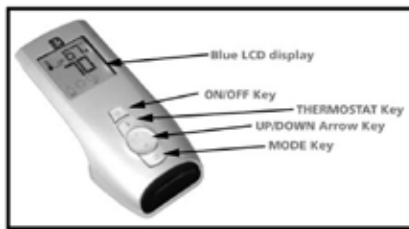
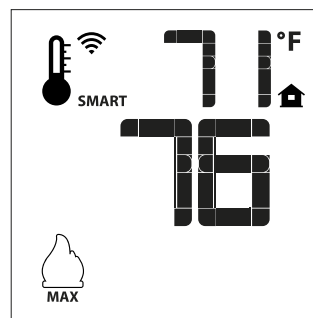
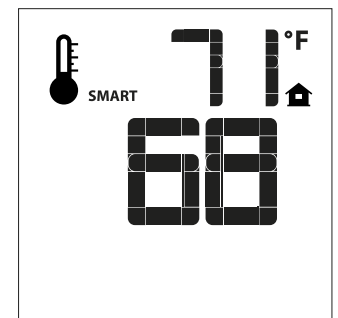

Figure 1 - Proflame Transmitter
Figure 6 - Smart Flame Function
Figure 7
The Proflame Transmitter uses a streamline design with a simple button layout and informative LCD display (Fig. 1).
A Mode Key is provided to Index between the features and a Thermostat Key is used to turn on/off or index through Thermostat functions (Fig. 1 & 2).
Press the ON/OFF Key on the Transmitter. The Transmitter LCD display will only show the room temperature and Icon (Fig. 7). At the same time the Receiver disconnects the thermopile from the gas valve millivolt coil and the appliance burner turns off. A single “beep” from the Receiver confirms reception of the command.
The Remote Control can operate as a room thermostat. The thermostat can be set to a desired temperature to control the comfort level in a room. To activate this function, press the Thermostat Key (Fig. 1). The LCD display on the Transmitter will change to show that the room thermostat is “ON” and the set temperature is now displayed (Fig. 5). To adjust the set temperature, press the Up or Down Arrow Keys until the desired set temperature is displayed on the LCD screen of the Transmitter.
The Smart Thermostat function adjusts the flame height in accordance to the difference between the set point temperature and the actual room temperatures. As the room temperature gets closer to the set point the Smart Function will modulate the flame down. To activate this function, press the Thermostat Key (Fig. 1) until the word "SMART" appears to the right of the temperature bulb graphic (Fig. 6). To adjust the set temperature, press the Up or Down Arrow Keys until the desired set temperature is displayed on the LCD screen of the Transmitter (Fig. 7).
If the appliance is equipped with a hot air circulating fan, the speed of the fan can be controlled by the Proflame system. The fan speed can be adjusted through six (6) speeds. To activate this function use the Mode Key (fig.1) to index to the fan control icon (Fig. 8). Use the Up/Down Arrow Keys (Fig.1) to turn on, off or adjust the fan speed (Fig. 9). A single “beep” will confirm reception of the command.
The auxiliary function controls the AUX power outlet on the Fan Control Module. To activate this function use the Mode Key (fig. 1) to index to the AUX icon (fig. 10 & 11). Pressing the Up Arrow Key will activate the outlet. Pressing the Down Arrow Key will turn the outlet off. A single “beep” will confirm the reception of the command.